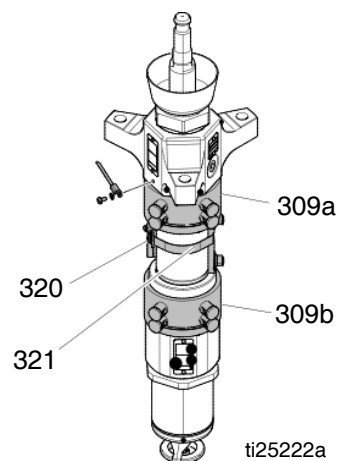

FIG. 29
13. Tightly strap the Air Motor to the tie bar with a cable through the Air Motor lift ring and around the tie bar. See FIG. 29, page 53.
14. Loosen u-bolts (X) from Platen lift rods.
15. Remove nuts (F) from Heated Pump/Air Motor stand-off rods at the Pump end.
16. Remove nuts (Z) and bolts holding cable track to Air Motor support plate.
18. Remove nuts (N) from follower lift rods.
19. Fully loosen Pump rod coupler to the Air Motor rod (G).